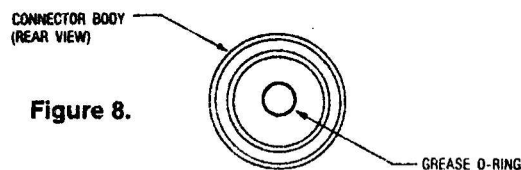

Figure 8.
- Apply a light film of grease to the body O-ring and slip it into position on the connector body as shown in Figure 1. Apply a light film of grease to the anchor sub-assembly O-ring located inside the connector body. See Figure 8.